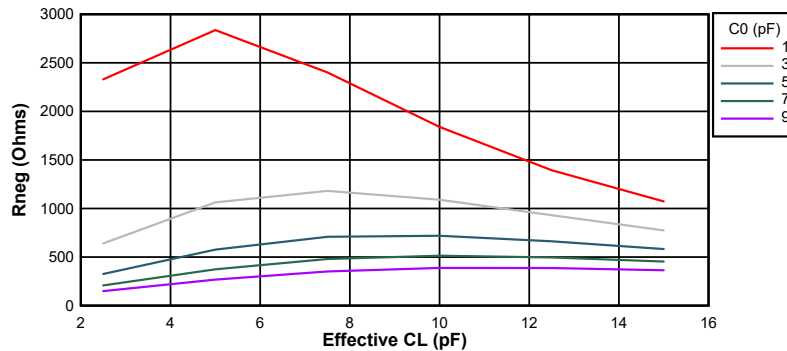
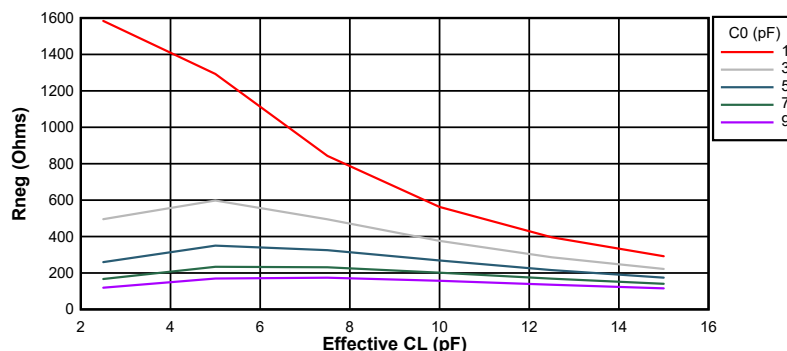

图 6-16. Negative Resistance Variation at 10 MHz
图 6-17. Negative Resistance Variation at 20 MHz
图 6-16 and 图 6-17 show the variation between negative resistance and the crystal components for this device. As can be seen from the graphs, the crystal shunt capacitance (C0) and effective load capacitance (CL) greatly influence the negative resistance of the electrical oscillator. Note that these are typical graphs; so, refer to 表 6-5 for minimum and maximum values for design considerations.